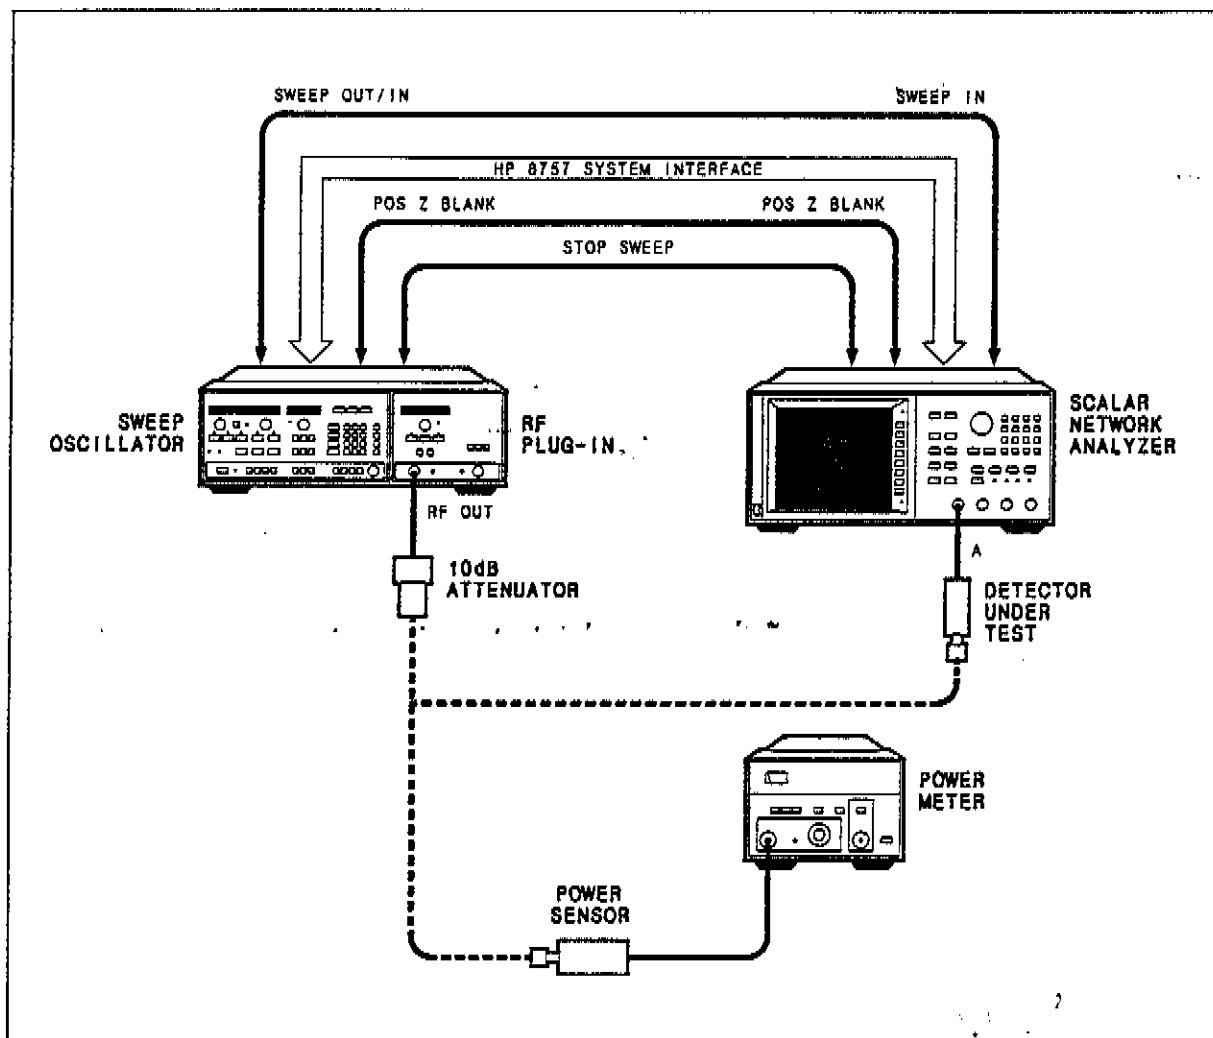

Figure 11. Frequency Response Test Setup
1. Connect the equipment as shown in Figure 11, with nothing connected to the attenuated output of the source.